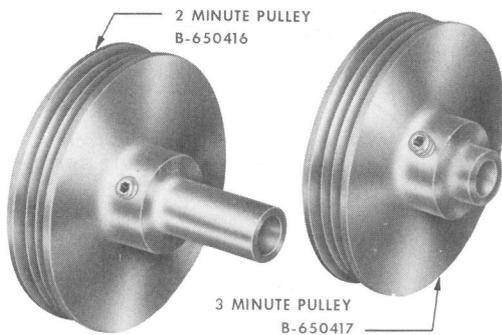

Fig. 8—Drive Pulleys
2.10 The B-650417 3-minute pulley (Fig. 8) is used to increase the maximum announcement recording capacity from 2 to 3 minutes. The 3-minute pulley reduces the angular speed of the recording drum, thereby increasing the announcement capacity.
2.11 As shown in Fig. 8 the 3-minute pulley differs from the 2-minute in that the smaller diameter extension is not provided and hence, the flat drive belt is driven directly from the shaft.
| Pulley, 2-minute | B-650416 | Component of B-650412 Drive Assembly | Fig. 8 |
| Pulley, 3-minute | B-650417 | Used to convert announcement set to 3-minute announcement interval | Fig. 8 |